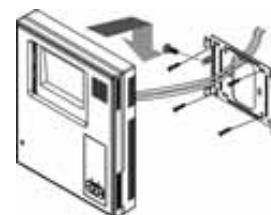

Figure 7.
Step 3. Mounting the monitor onto the wall (figure 7).